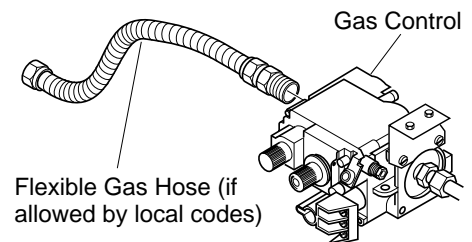

Figure 11 - Attaching Flexible Gas Hose to Heater Gas Regulator
1. Apply pipe joint sealant lightly to male threads of gas fitting. Connect approved flexible gas hose to inlet side of gas control (see Figure 11).